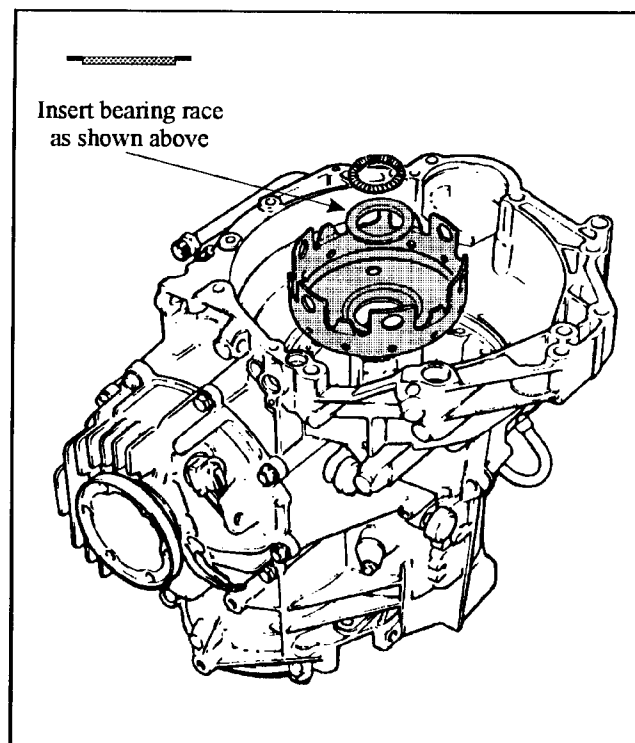

Figure 147
18. Install the bearing race and the bearing onto the drive shell as shown in Figure 147.